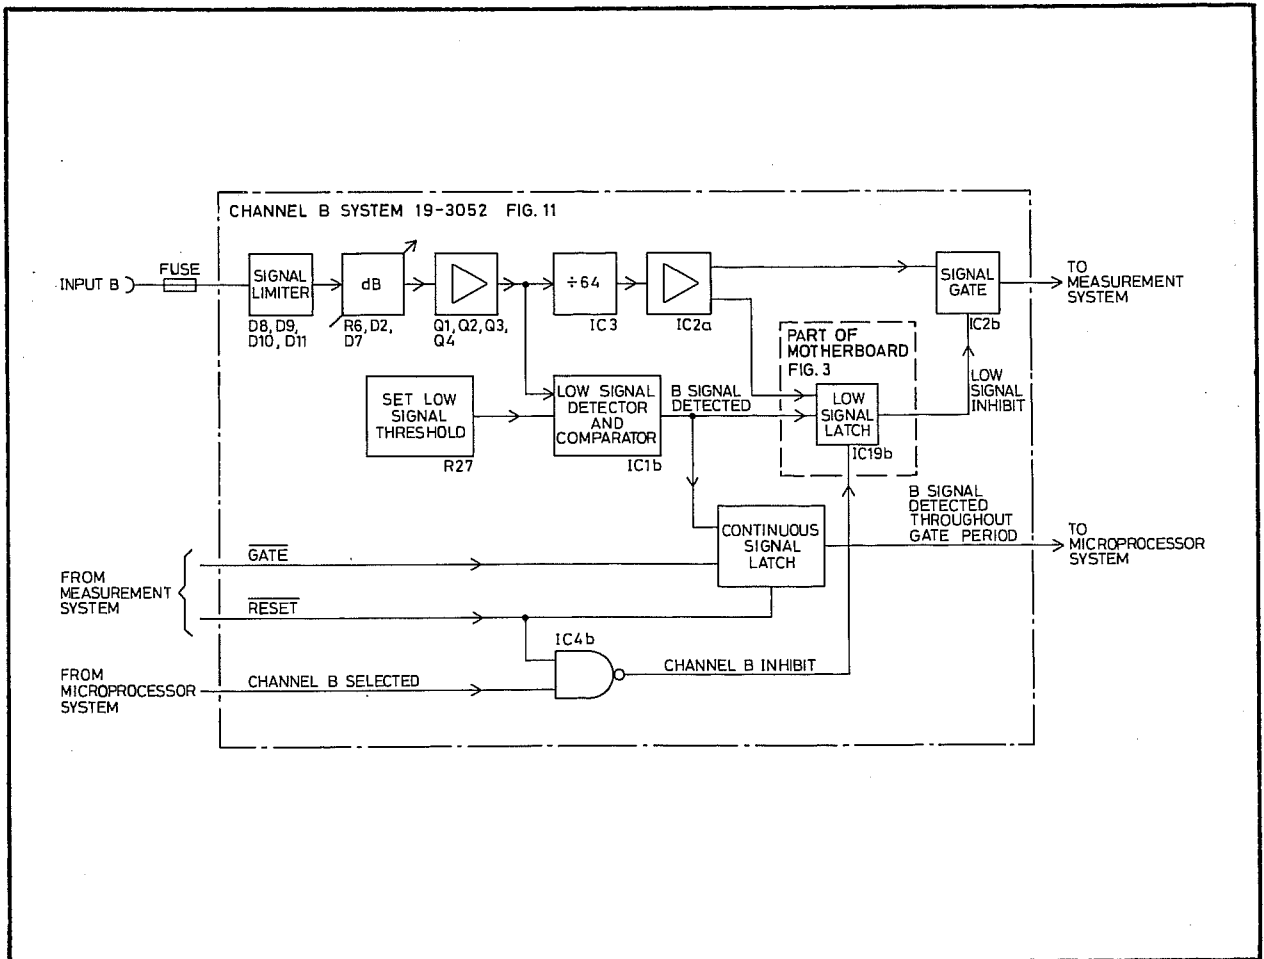

Fig. 6.3 The Channel B System
- 11 The channel B system processes the signals applied at INPUT B and feeds it to the measurement system. A block diagram is given in Fig. 6.3.